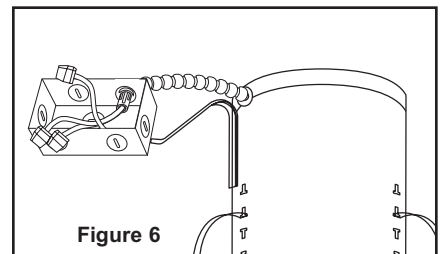

Figure 6
**Step 2.** Remove wiring box cover. Remove the appropriate knock-out to connect flexible metal conduit or non-metallic cable to wiring box with proper connectors (by others) (Fig. 6).